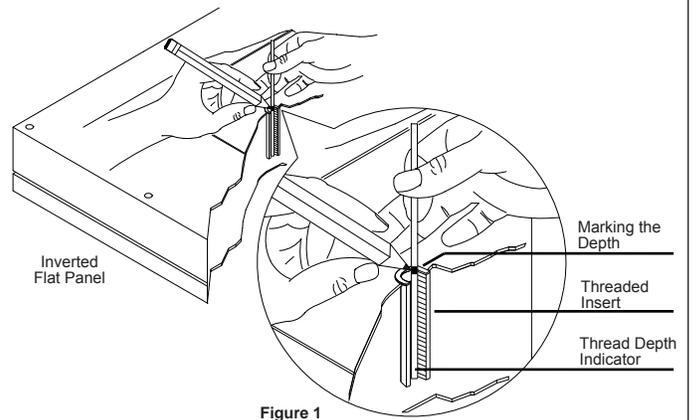

Figure 1
- ❶ Insert the Thread Depth Indicator into the thread inserts found on the back of the flat panel.
- ❷ Use a pencil to mark the depth of the thread insert on the Thread Depth Indicator, as shown in Figure 1.
- ❸ Insert the Thread Depth Indicator into the remaining thread inserts to compare and verify their depth.
- ❹ Locate the correct diameter screw for the thread insert.